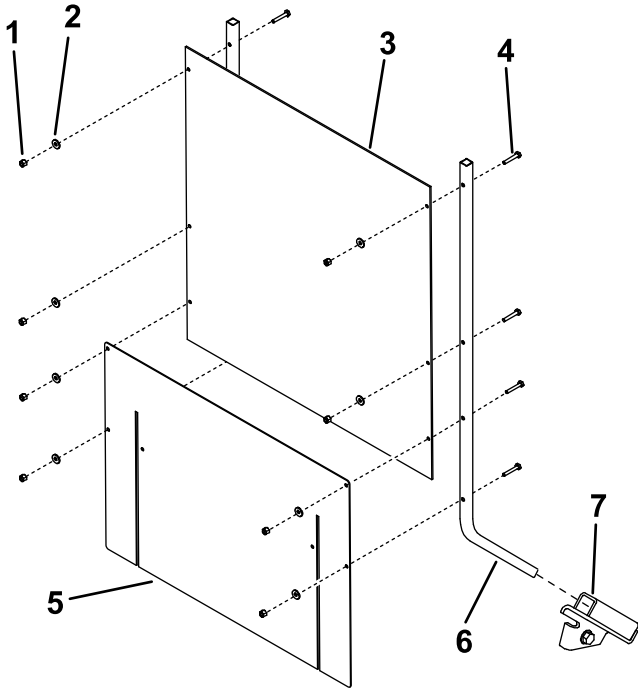

Figure 8
- Slide the shield supports into the pockets in the shield brackets on the traction unit (Figure 8).
- Assemble the shield and flexible skirt to the shield supports as illustrated in Figure 8, using 8 bolts (1/4 x 1-1/2 inch), 8 washers, and 8 locknuts (1/4 inch).